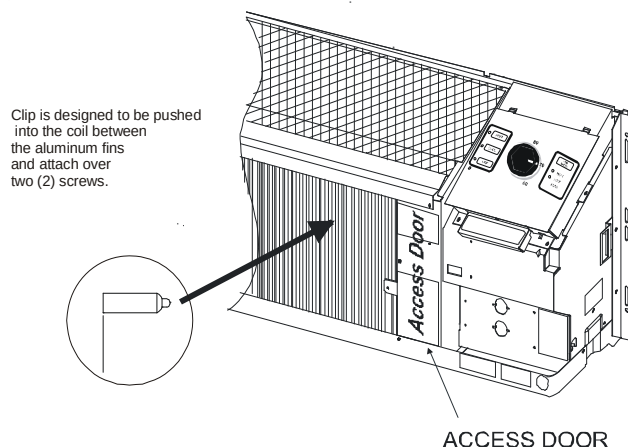
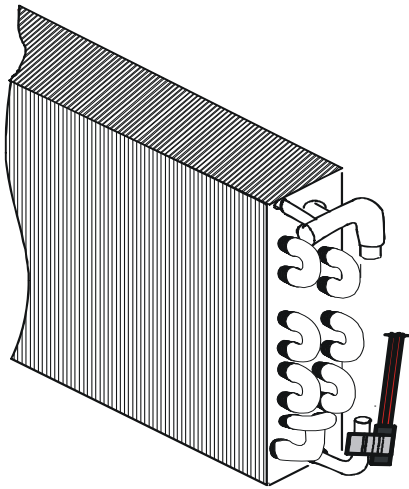

Figure 6
Figure 7
- B. If the existing **Indoor Ambient Thermistor** (with the **BLACK** wires) was connected to the board by a plug-on connector, reconnect it to the new board on the **IAT** (black) terminals. If the existing Indoor Coil Thermistor was soldered to the previous board, install the new black thermistor per Figure 6 and connect as above.
- C. If the existing **Indoor Coil Thermistor** (with the **RED** wires) was connected to the board by a plug-on connector, reconnect it to the new board on the **ICT** (red) terminals. If the previous board used indoor coil bi-metals, remove and discard the bi-metal devices. The access door will need to be removed on the indoor coil to gain access to the bi-metal. See Figure 6. The Indoor Coil Thermistor will need to clip on the vertical section of the 90-degree bend of the inlet line to the indoor coil. See Figure 7. Connect the Indoor Coil Thermistor to the board as noted above.